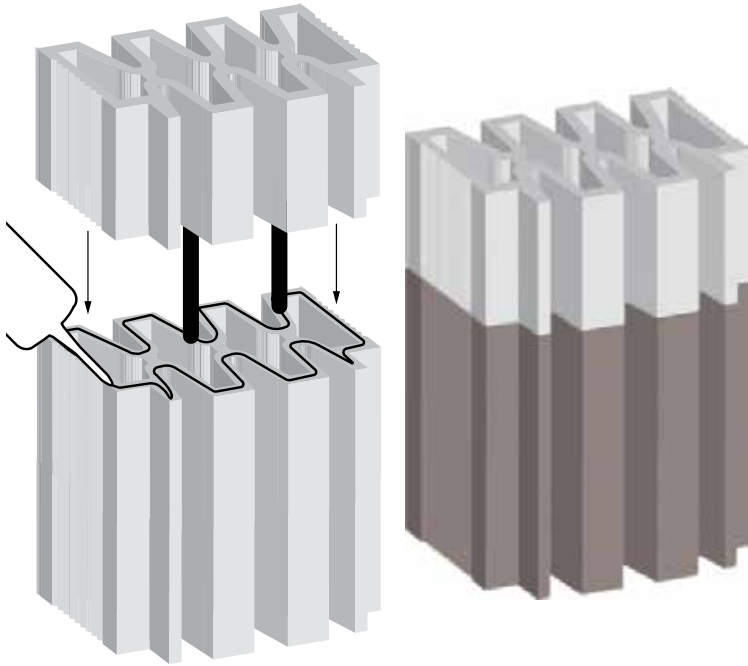

Figure 9—Placement of Backer Rods in Splices
Compression seal splices and transitions are field fabricated using appropriately sized backer rods and the recommended silicone sealant or equivalent (Figure 9).
4. Insert the alignment backer rods into the seal chambers so that half of the rod is inserted into its respective seal chambers (Figure 9).